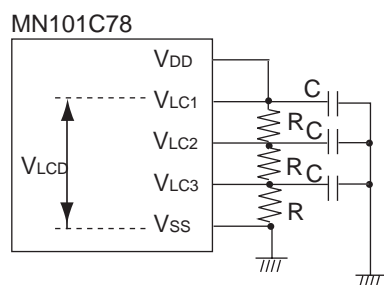

Figure:16.3.1 LCD Power Supply Connection (When using External Voltage Divider Resistors)
Figure:16.3.1 shows example of the LCD power supply connection.
1. In Figure:16.3.1, current always flows through the voltage dividing resistors. The following connection is used to cut the current flowing through these dividing resistors. (at $V_{CL1} = V_{DD}$)